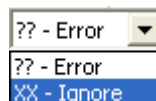

Figure 12: Action Error Drop-Down Menu
1. In the Import Treatment Plan window, click in the *Action* column and data item you want to ignore to display the Action Error drop-down menu, shown in Figure 12. This lets you change the Error action to *Ignore*.